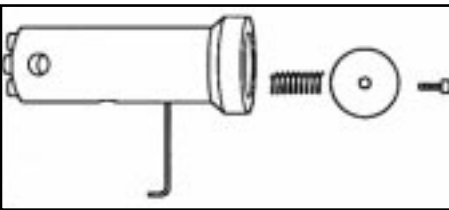

Figure 17
5. Pull out the piston, O-ring, and spring. (Fig.17)